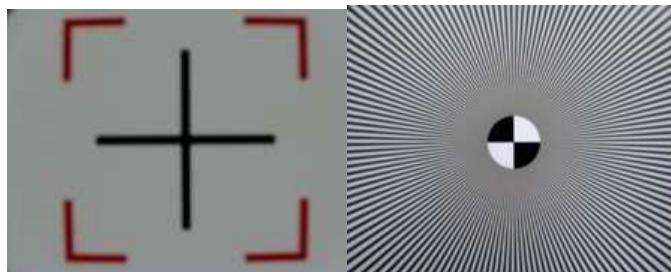

Figure 20. Centering Position Images - Distortion and Resolution Charts
8. Visually observe that the center of the lens is centered horizontally with the center of the Test Chart. Figure 20 shows examples of monitor views of centered images.